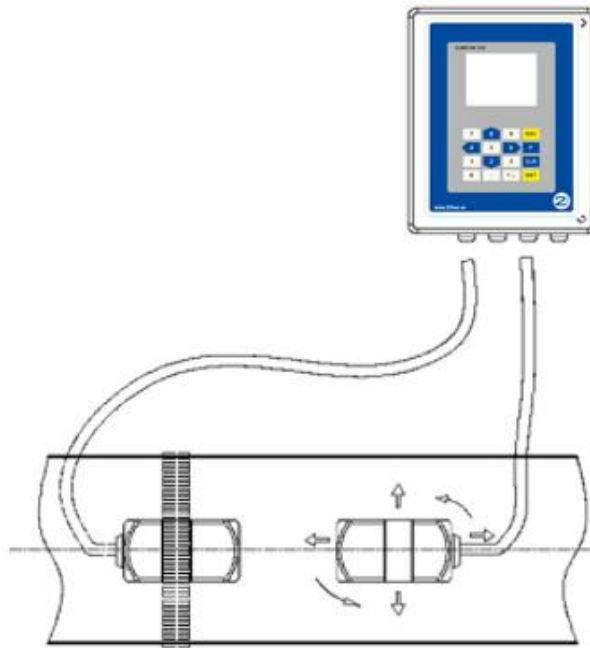

Figure 2.6
6. Place the downstream transducer on the pipe at the calculated transducer spacing. The installation of a pair of sensors is used as an example. The method of the other pair is the same. See **Figure 2.6**. Using firm hand pressure, slowly move the transducer both towards and away from the upstream transducer while observing Signal Strength. Clamp the transducer at the position where the highest Signal Strength is observed. Signal Strength RSSI of between 60 and 95 percent is acceptable. On certain pipes, a slight twist to the